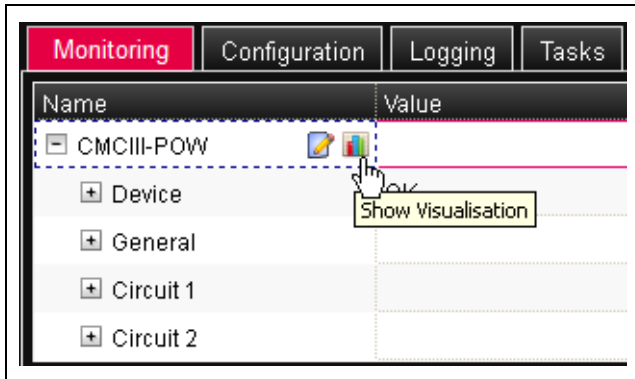

Fig. 28: "Graphic" icon
- Click the coloured "graphic" icon suffixed to the "CMCIII-POW" entry in the form of a stylised chart (fig. 28).